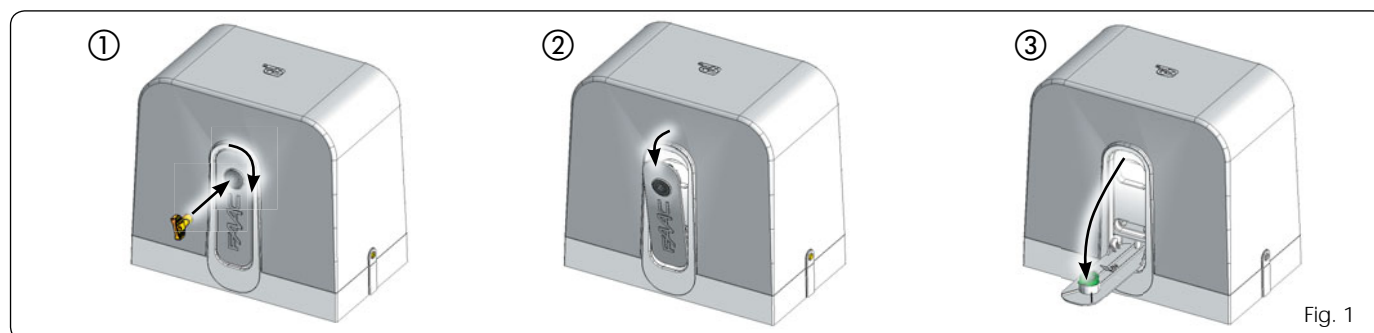

Fig. 1
1. Turn the release clockwise as shown in Fig. 1 re. ①. The release lever will move slightly away from the operator body (Fig. 1 re. ②).
2. Fully lower the release lever to the mechanical stop Fig. 1 re. ③.